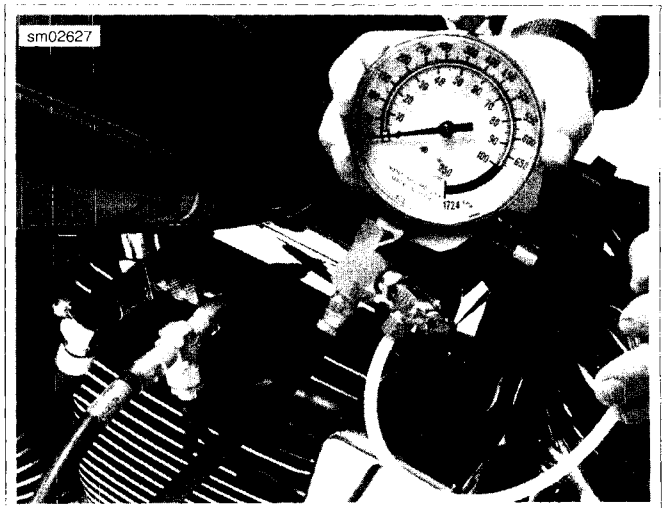

Figure 4-55. Fuel Pressure Gauge Installed (Typical)
- d. See Figure 4-55. In the same manner, install neck of second fuel supply line fitting into quick-connect fitting on fuel tank. Tug on fuel supply line to be sure that it will not come free.